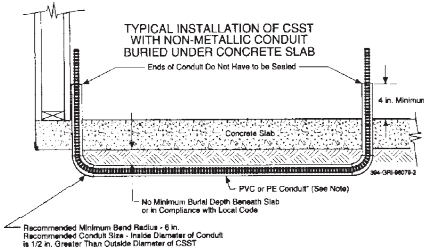

Figure 4.8 Installation in Non-Metallic Conduit Under Slab
STANDARD FLEX should never be buried directly underground. To route STANDARD FLEX tubing underground, it must be protected within a non-metallic water-tight conduit that is at least 1/2" larger than the outer diameter (OD) of the CSST tubing. Fittings and joints are not permissible in such runs—the run must be one unbroken line of tubing. Runs underneath slabs must be sleeved and vented per local codes. (See Figures 4.8 and 4.9)